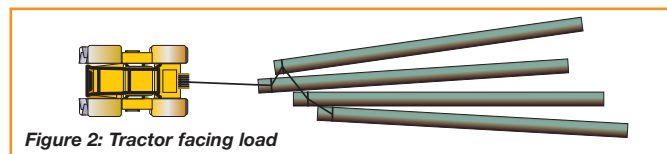

Figure 2: Tractor facing load
- ❑ 15 Position the rear of the tractor to face the load (see *Figure 2*). Avoid excessive side hauling. Use a re-direct pulley if required.